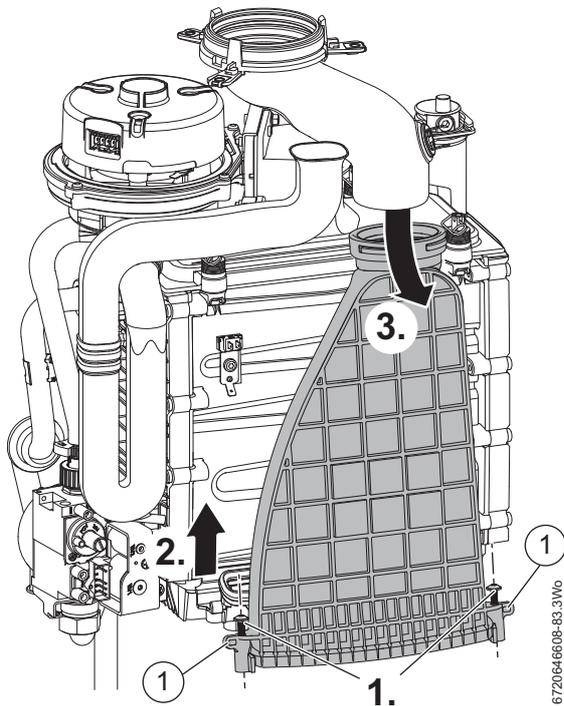

Fig. 91 Flueway removal
▶ Refer to figure 91 for Flueway removal.
2. Using a screwdriver under the tabs (1) next to the screws, lever the Flueway up to clear the seal and pull the Flueway forward.